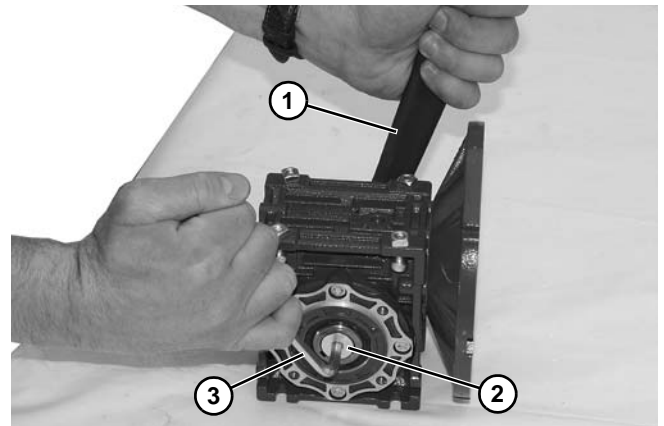

Figure 23
8. Hold the driveshaft with a wrench (**Figure 23, item 1**) as shown to keep shaft from turning, while removing screw (**Figure 23, item 2**) with hex wrench (**Figure 23, item 3**).
Output shaft (**Figure 23, item 1**) is held in Gear Reducer with a tapered press fit. Removal may require use of an arbor press.
- Hold the driveshaft with a wrench (**Figure 23, item 1**) as shown to keep shaft from turning, while installing screw (**Figure 23, item 2**) with hex wrench (**Figure 23, item 3**) Tighten screw to 350 in-lb (39.5 Nm).